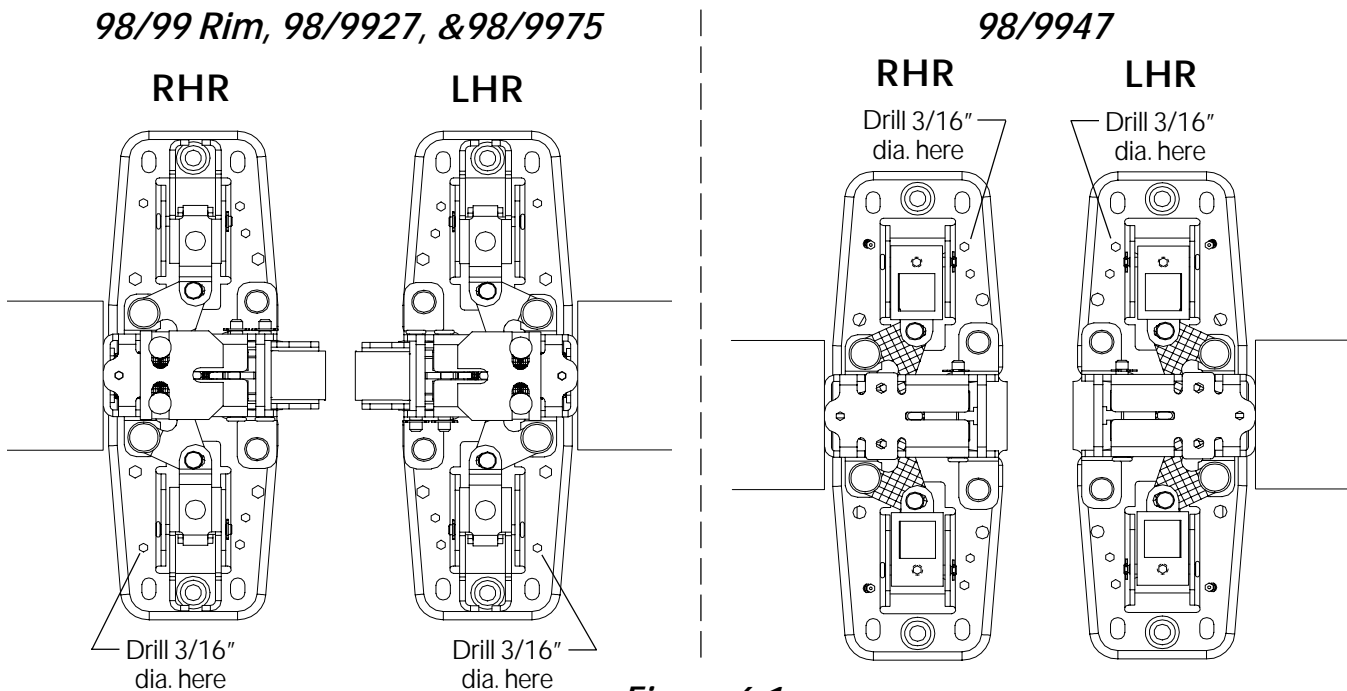

Figure 6-1
5.1. Prepare exit device side of door using instructions and template provided with exit device. See Figure 6-1 below for drilling wiring access hole in door.
6.1. Locate hole in center case as shown in Figure 6-1.